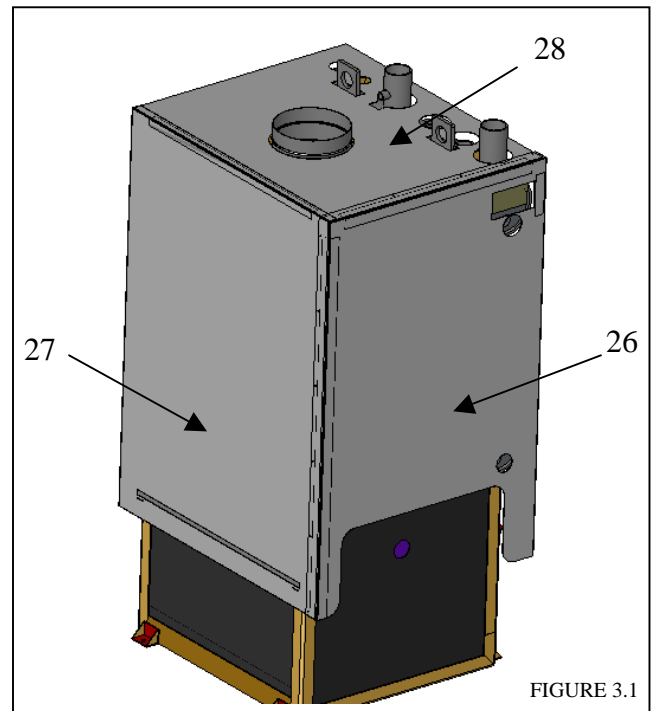

FIGURE 3.1
- 3.4 Place jacket rear (Item #26) in place. Starting at the top left corner of jacket rear, work the top and sidetracks into the jacket top and jacket side until jacket rear is in place. See Fig. 3.1.